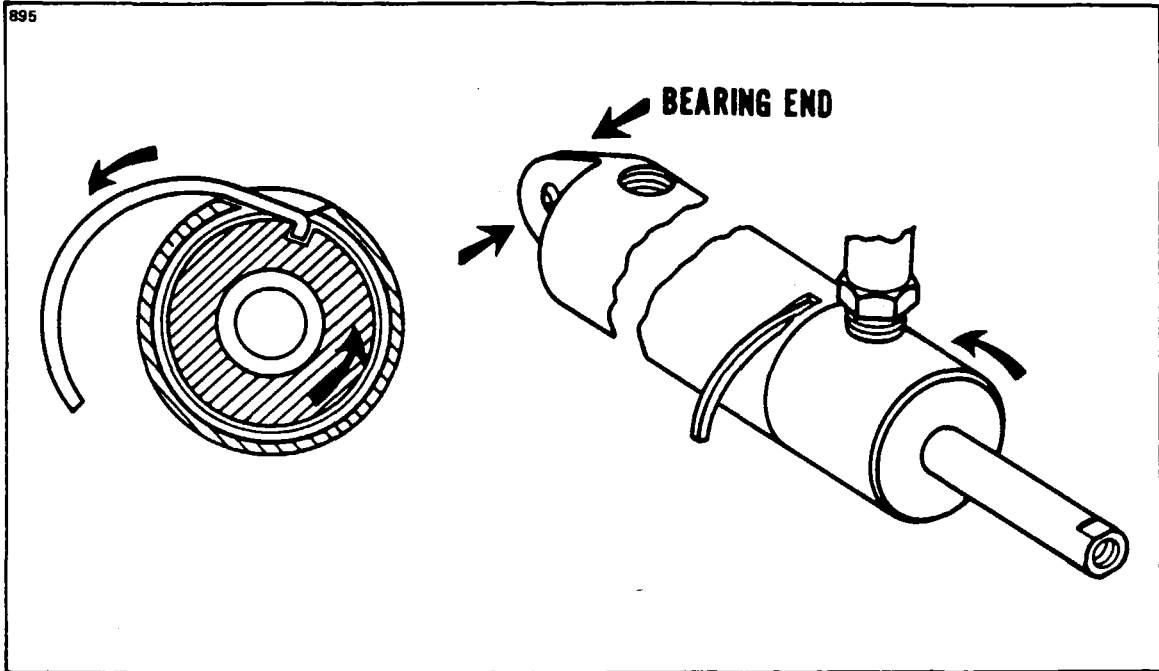

Figure 6-8. End Gland Locking Device (Main Gear)
- a. With the cylinder removed from the airplane, push the piston rod (6) (by hand) toward the clevis (9) to remove oil from the unit.
- b. Put clevis (9) only in a soft jaw vise and clamp against the clevis bearing (10).
- c. If no pipe fitting is installed in the port of the end gland (1), install a fitting (1/8 - 27) into the port. This fitting need not be tight as it will be used for leverage only.
- d. Rotate the gland counterclockwise (with use of fitting) until the end of the gland lock ring (4) shows in the slot in the cylinder body (7). Reverse rotation of the gland (clockwise direction) to allow the lock ring to move out of the slot. (Refer to Figure 6-8.) (It may be necessary to give the ring an assist to start out of the slot. If so, insert a strong wire pick or other available tool in the slot to lift up the end of the ring and then rotate gland.)
- e. Pull the piston (6) and end gland from the cylinder.